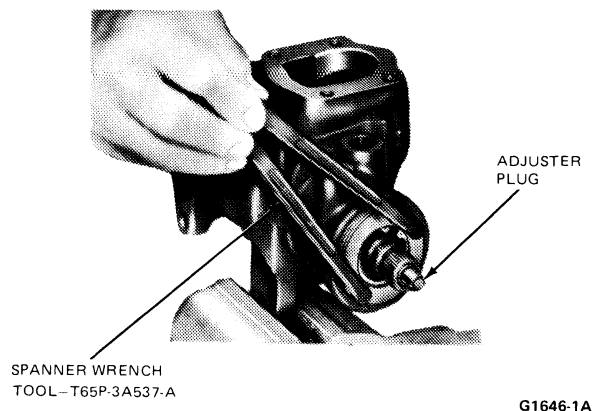

FIG. 20 Removing Adjuster Plug
12. Remove the adjuster plug using spanner wrench T65P-3A537-A (Fig. 20).